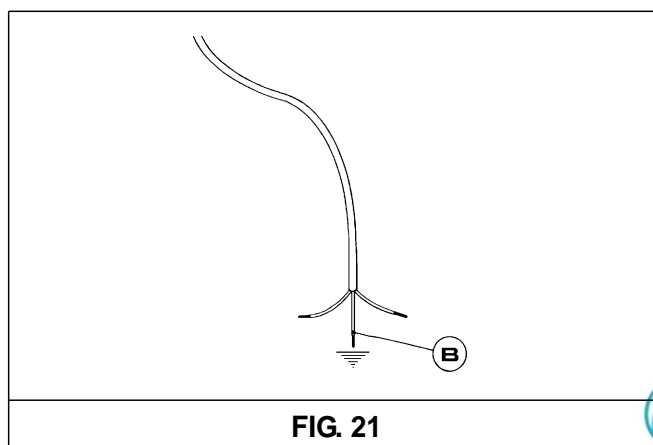

FIG. 21
*If the power supply cable is replaced, the installer should leave the ground wire longer than the phase conductors (fig. 21) and comply with the recommendations given in paragraph 8.*